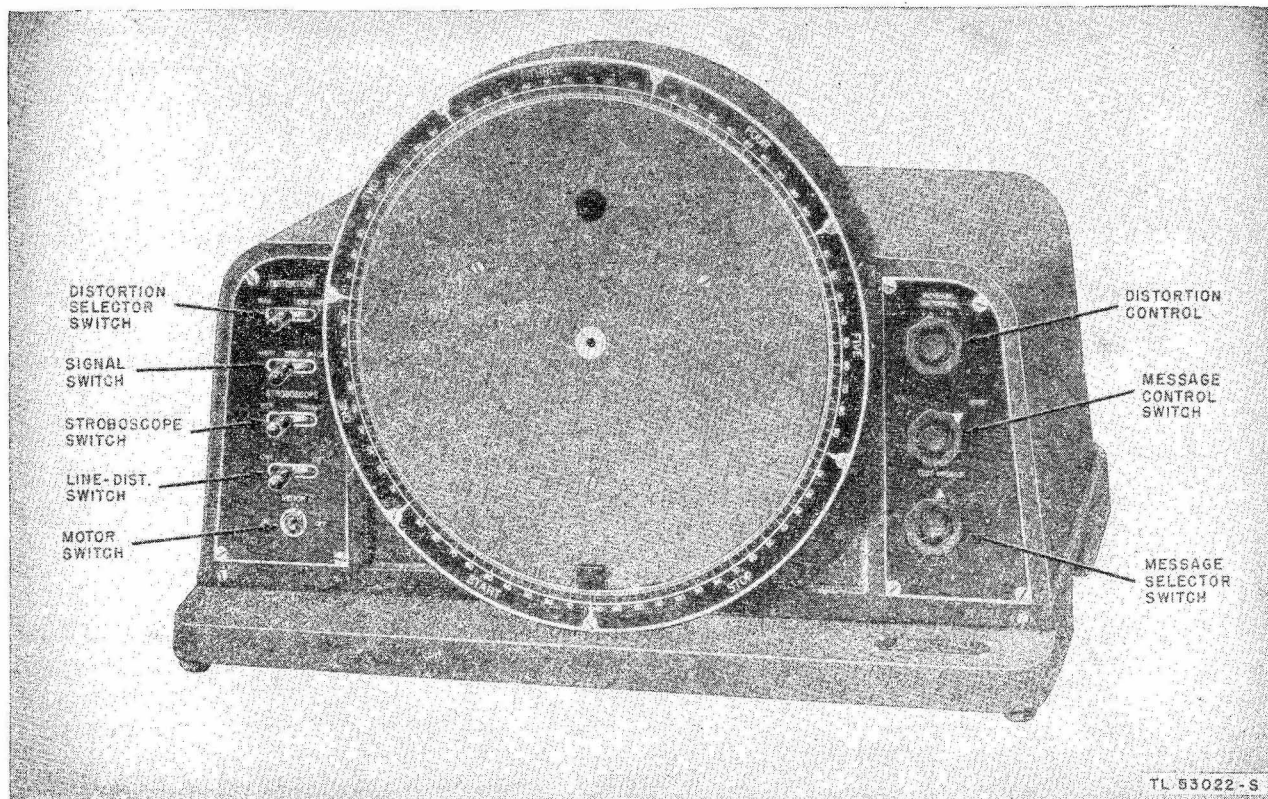

Figure 39. Distortion Test Set TS-383/GG.
d. In larger teletypewriter repair shops, Distortion Test Set TS-383/GG (fig. 39) com-